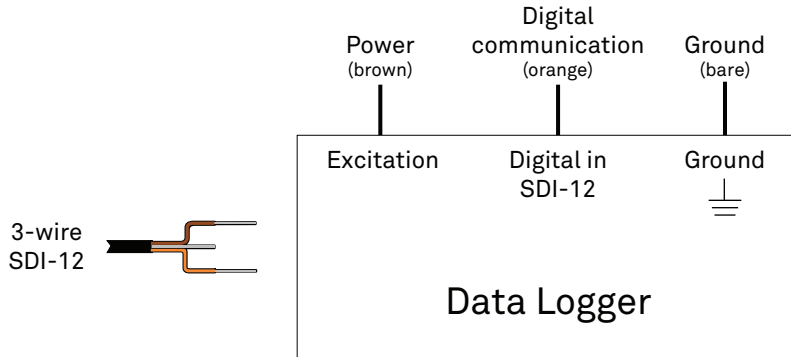
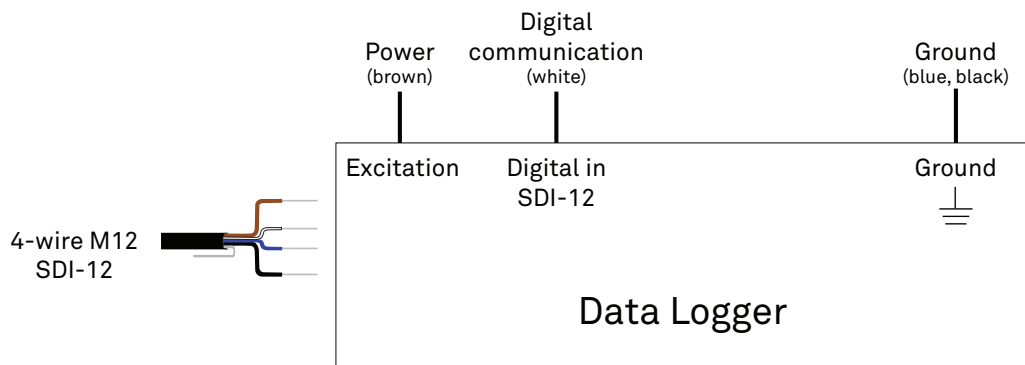

Figure 17 Three-wire pigtail SDI-12 wiring diagram
Figure 20 Four-wire M12 connector SDI-12 wiring diagram
Connect the TEROS 32 wires to the data logger as illustrated in Figure 17 through Figure 20 with the supply wire (brown) connected to the excitation, the digital output wire (orange) to a digital input, and the bare ground wire to ground.
- 3- or 4-wire cable version (Figure 17)